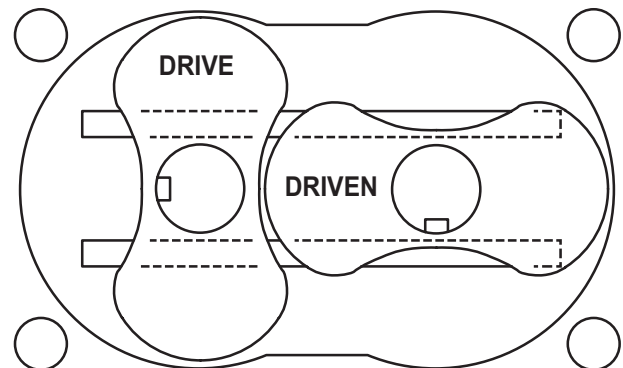

Figure 8-1 – Rotors in Housing
5. Lay two pieces of steel approximately 2 in. × 2 in. × 1/8 in. (51 mm × 51 mm × 3 mm) thick at the bottom of the housing as shown in **Figure 8-1** with the end (long shafts) up. The rotor lobes will be above the end of the housing, which is necessary when assembling this end.